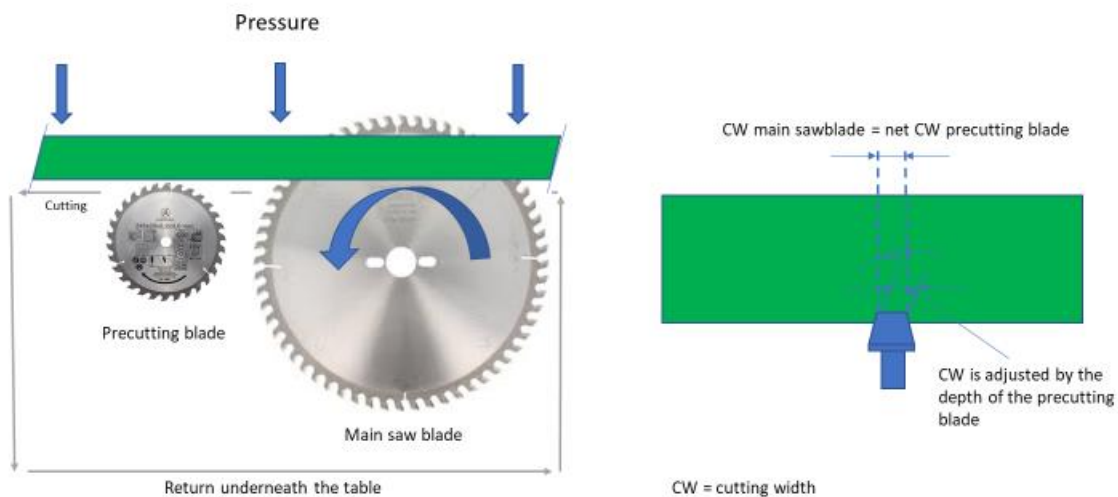

Figure 8: Fixed circular saws with precutting
- the quality of the cut edge depends on the height adjustment of the saw blade as well as the items mentioned below. The ideal height depends on the thickness of the decorative laminate and the circular saw blade (figure 8).